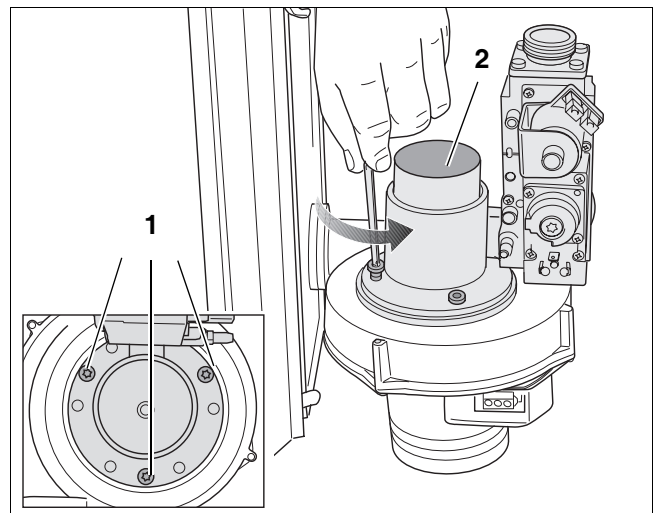

fig. 8 Removing the screws and gas valve with venturi
- Undo the three screws (fig. 8, **pos. 1**) and remove the gas valve with the venturi from the fan unit (fig. 8, **pos. 2**).